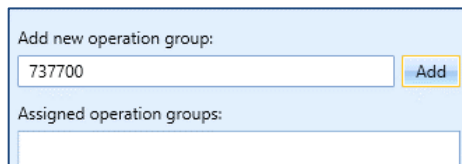

Figure 28. Create Annualization Wizard – Add New Operation Group Text Box
- In the *Add new operation group* text box, enter “737700” and click *Add* (Figure 28).